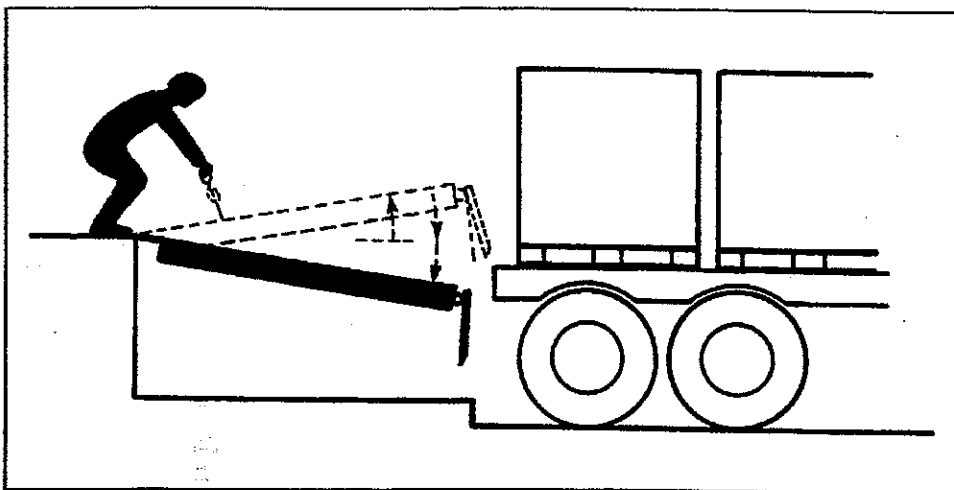

Fig. 36. Pull Ring to Operate Dock Leveler
If the unit is equipped with the leveler/restraint interlocking option, the dock leveler pull-ring MUST be used for operating the dock leveler for below dock end load operations. A light pull on the ring will raise the leveler platform. A strong pull on the ring will extend the leveler lip at any time during the raise cycle. See Figure 36.
5. See Figure 36, page 24. Pull up lightly on the pull-ring operator located at the rear of the dock leveler. The leveler will raise. When the leveler is approximately 2" above the dock floor, give a strong pull on the ring. The leveler lip will extend beyond the lip keepers. When the lip is extended beyond the keepers, release the ring. The leveler will descend to the full below dock position.